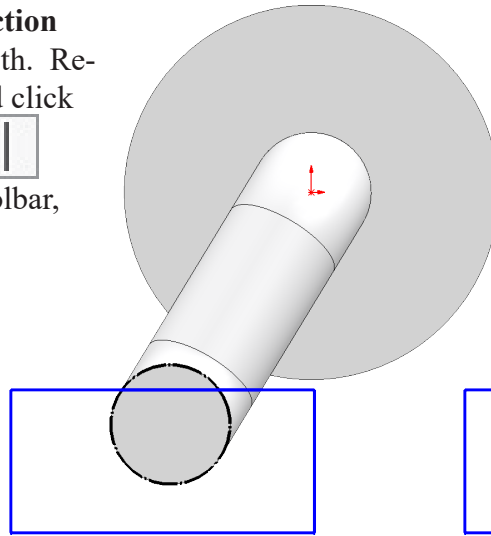

Fig. 29
Step 8. Sketch corner rectangle, **Fig. 29**.